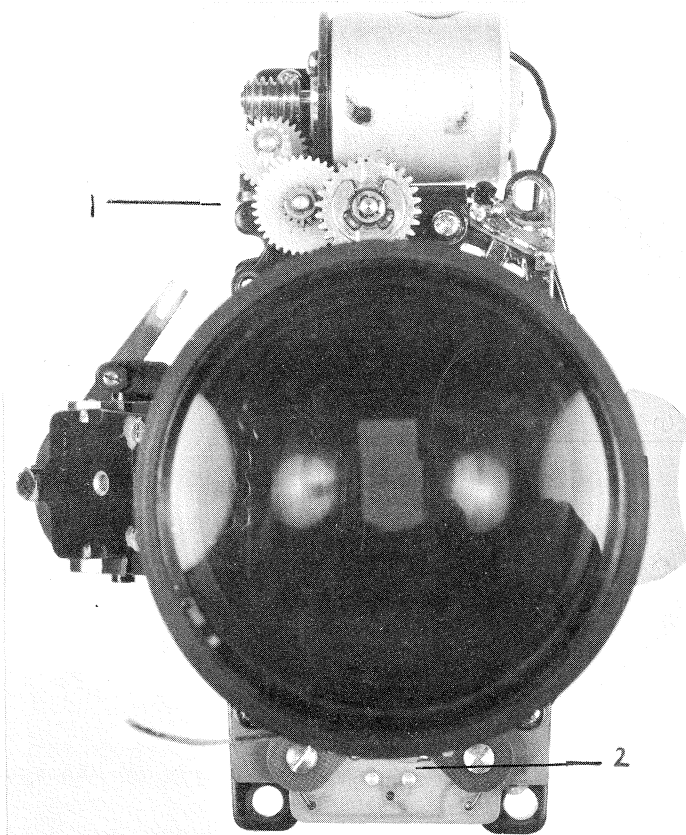

Fig. 8
- b-1. Inspect, adjust, remove, and replace the power zoom switch (2 in Fig. 8)
- b-2. Inspect, adjust, remove, and replace the power zoom mechanism (1 in Fig. 8)